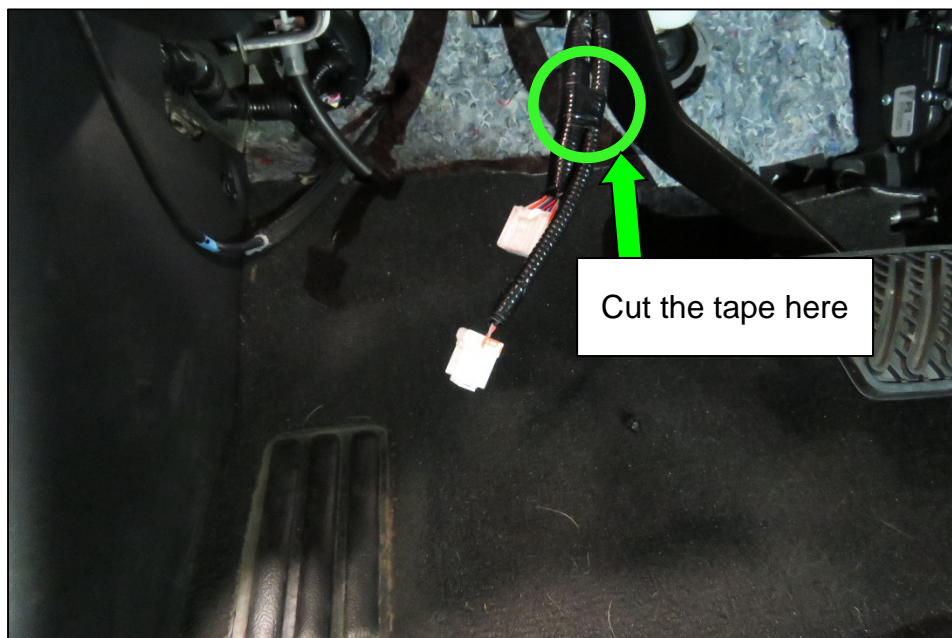

Figure 4
3. Allow the 2 harness branches to hang down, then carefully cut the tape to separate the 2 harness branches (Figure 4).